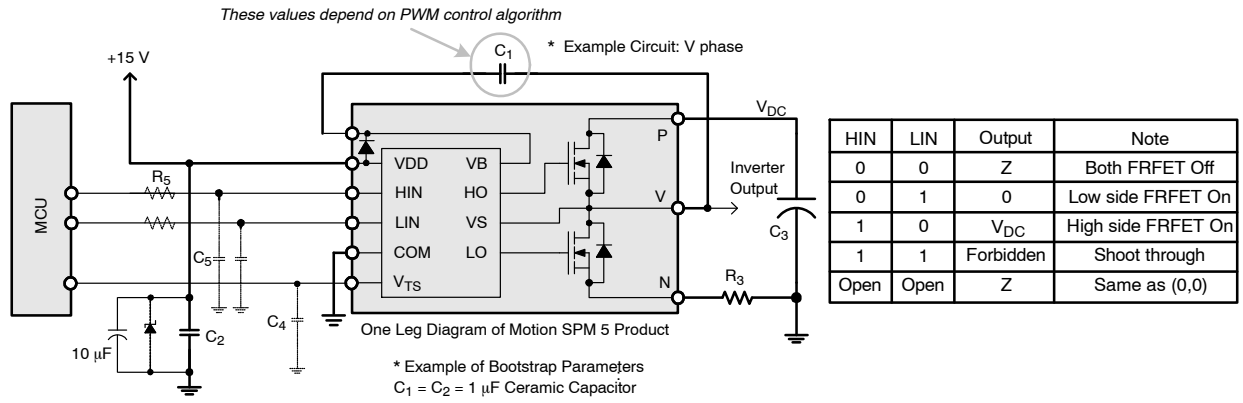

**Figure 2. Built in Bootstrap Diode Characteristics (Typical)**
- Built in bootstrap diode includes around  $15 \Omega$  resistance characteristic. Please refer to Figure 2.